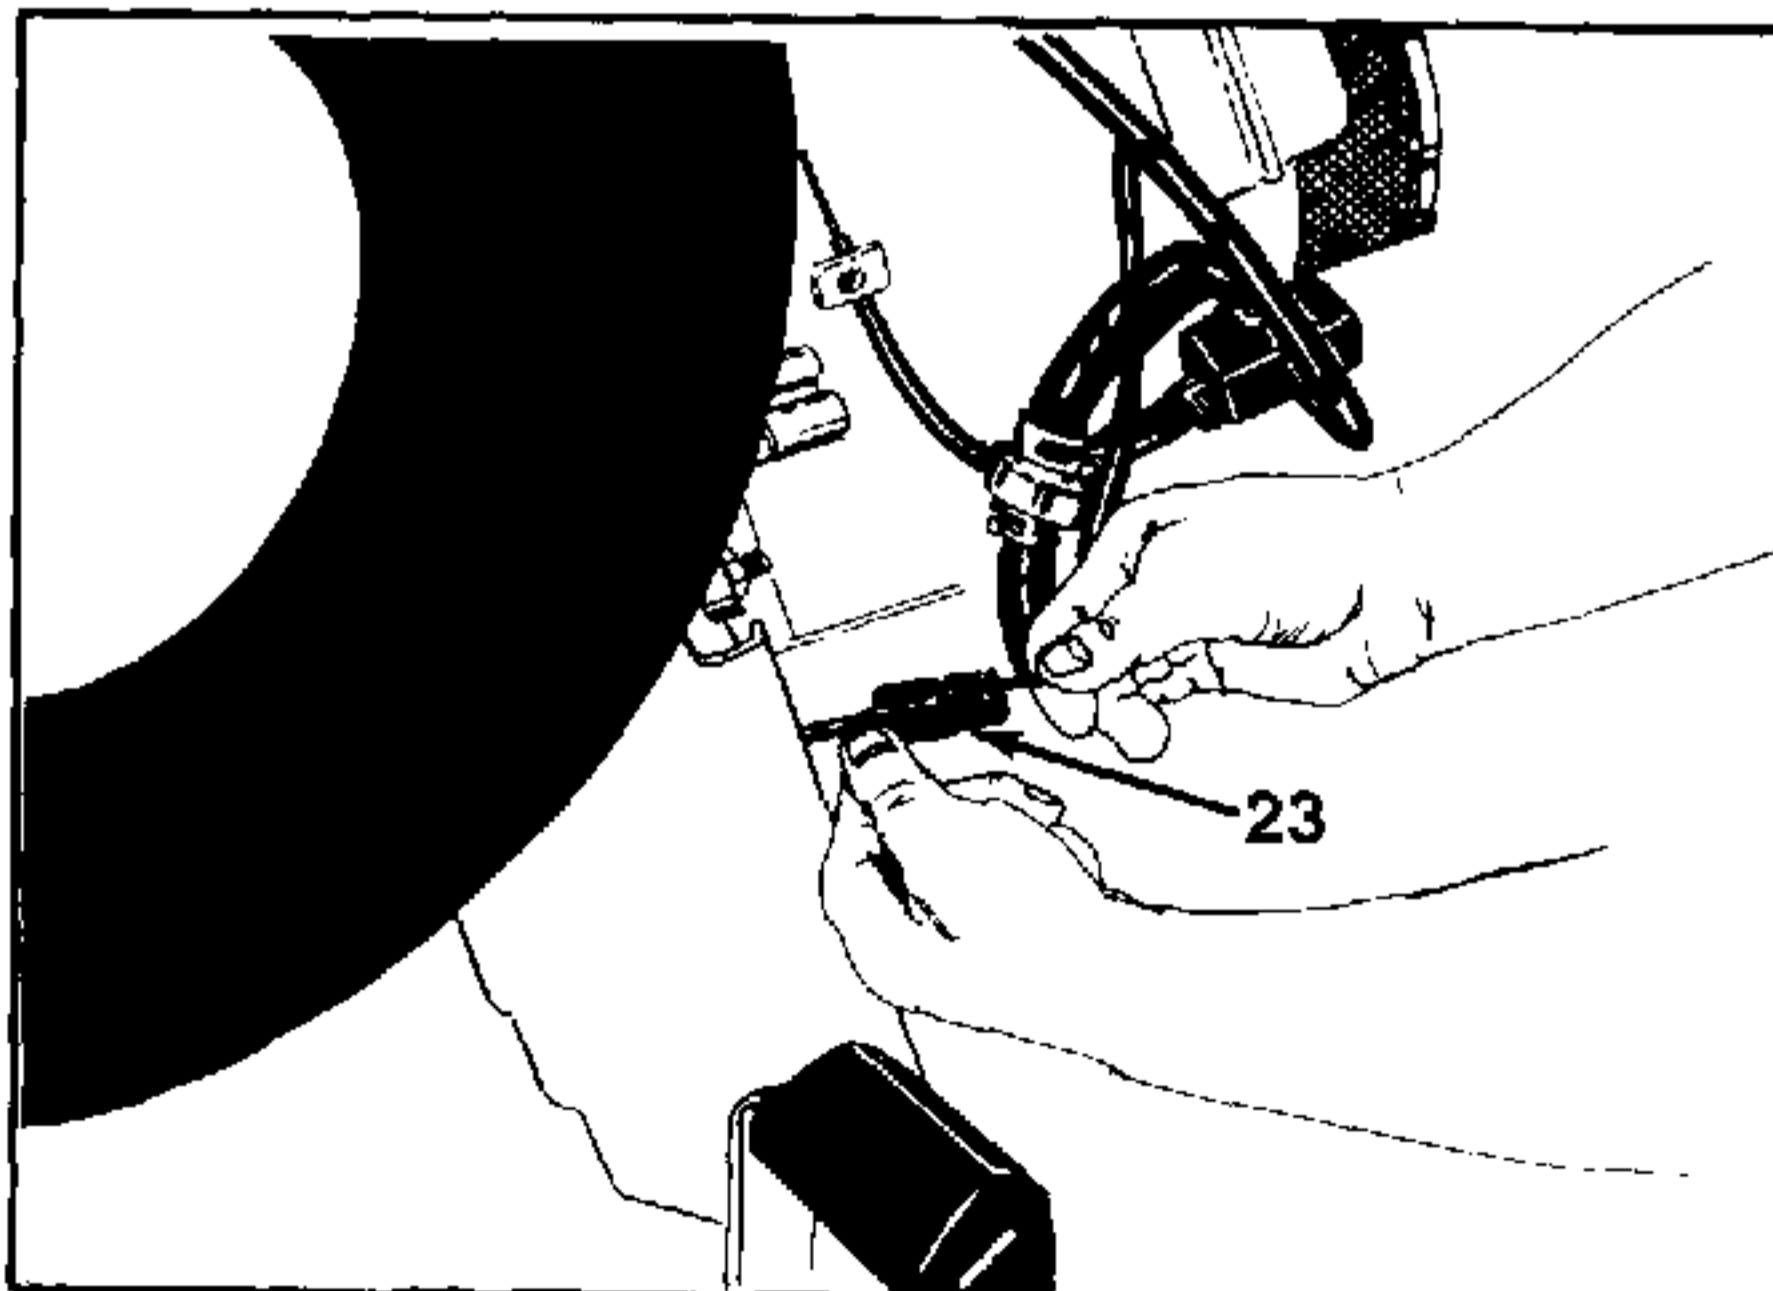

FIGURE 12.
11. Disconnect the module lead (Ref. 23) for the electric clutch. See figure 12.